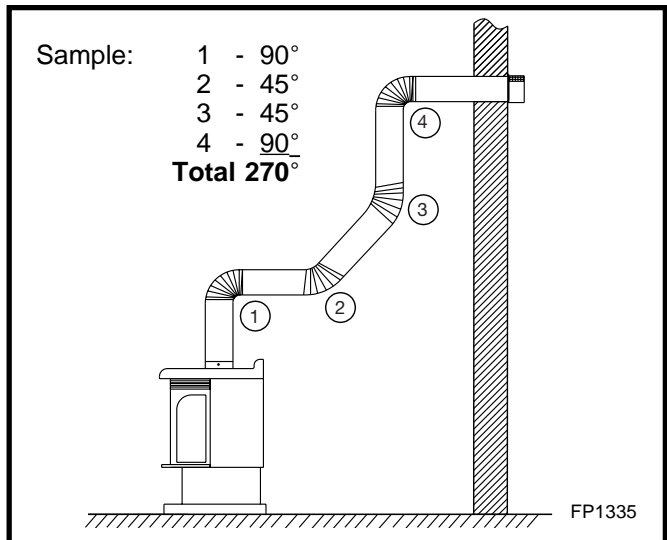

Fig. 13 Maximum number of elbows.
- The maximum number of 45° elbows permitted per side wall installation is two (2). These elbows can be installed in either the vertical or horizontal run. (Fig. 13)
- The maximum number of elbow degrees in a system is 270°. (Fig. 13)